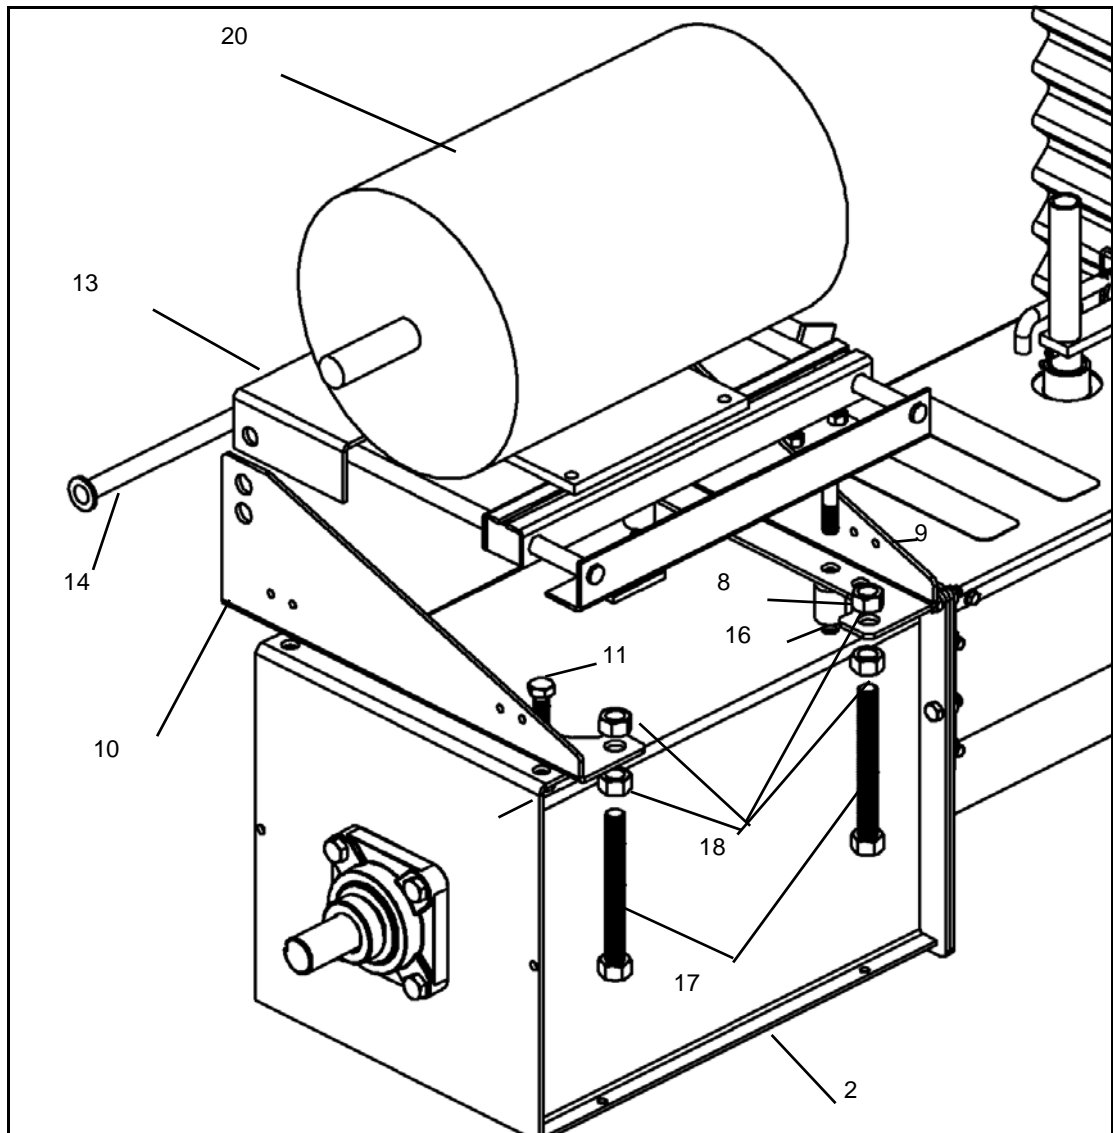

**Figure 3.12**
**Note:** Refer to Figure 3.12, 3.13, and 3.14 for assembly of the powerhead and discharge units.